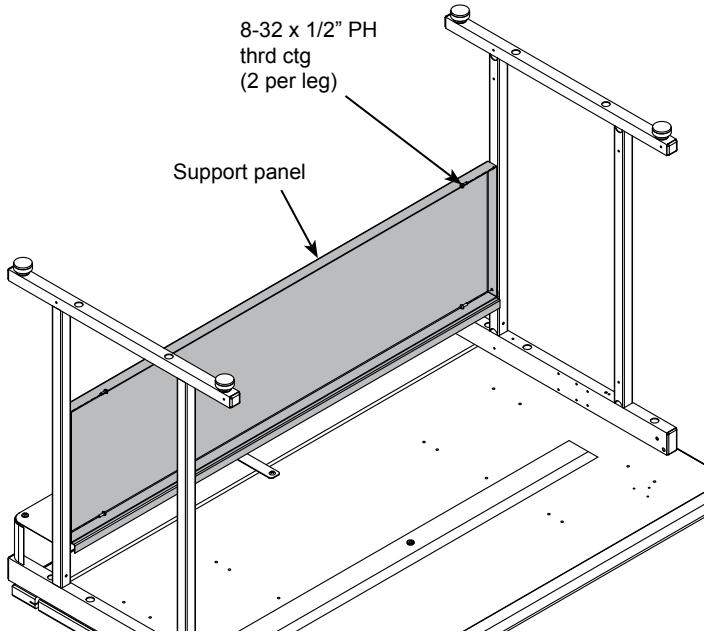

Figure 5
1. Align the support panel as shown. **Figure 5.**
2. Secure to the legs with (4) 8-32 x 1/2" PH thread-cutting screws.